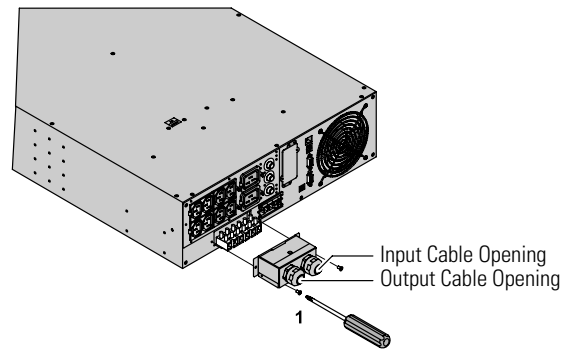

Figure 21. Removing the Terminal Block (EU Models)
- Before carrying out any connection, check that the battery circuit breaker and upstream protection device (utility input) are OFF (0).
1. Remove the terminal block cover (two screws) with the supplied screwdriver (see Figure 21).